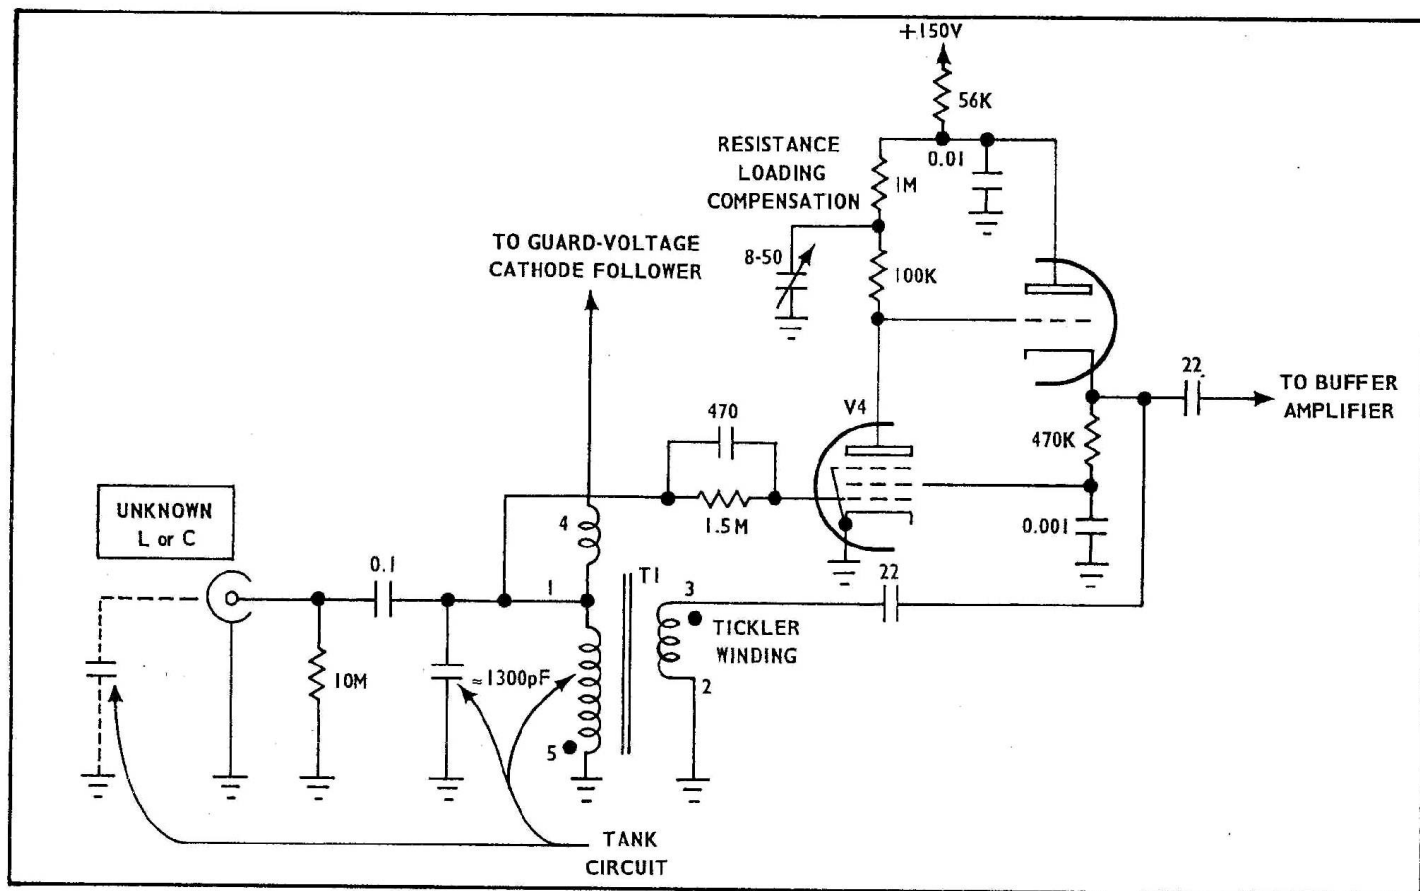

Fig. 3-2. Variable Oscillator active elements when Type 130 is set to measure capacitance.
When operating to measure unknown capacitors (see Fig. 3-2), terminal 5 of T1 is grounded, causing the grid circuit of V4A to see a normal resonant grid tank through grid leak resistor R6 paralleled by C6. Any change in grid voltage of V4A is amplified and inverted at its plate and directly coupled to the grid of cathode follower V4B. V4B serves three purposes: (1) low impedance drive to buffer amplifier V15A, (2) DC stabilization and control of the screen grid voltage of V4A, and (3) drive to the tickler winding of T1 through C10. V4B assures that the oscillator power level is adequate to minimize the effect of changes in frequency due to resistive loading that may be placed in parallel with the unknown capacitor. As the UNKNOWN terminal is lightly loaded, the signal to V4A grid is reduced, lowering the normal negative grid bias. Reduced bias increases plate current, causing the plate voltage to drop. Reduced plate voltage reduces the cathode voltage of V4B and the screen voltage of V4A, reducing V4A plate current so the plate voltage returns to approximately its original value. This action keeps the transconductance of V4A essentially constant and assures constant feedback drive to T1. Heavy resistive loading of the UNKNOWN terminal will reduce V4A grid bias enough to stop oscillations. Then V4B reduces V4A screen voltage to a low value to limit dissipation of V4A and protect the circuit until the heavy loading is removed.